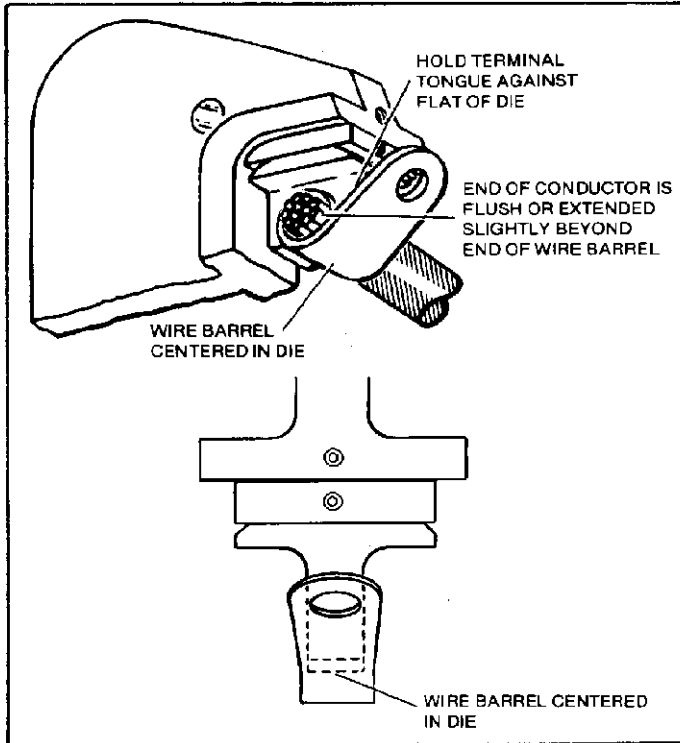

Figure 3
- Center flag terminal wire barrel in stationary die and hold tongue of terminal against flat of die as shown in Figure 3.
- Insert stripped wire all the way into terminal wire barrel until end of conductor is flush with or extended slightly beyond end of wire barrel. See Figure 3.